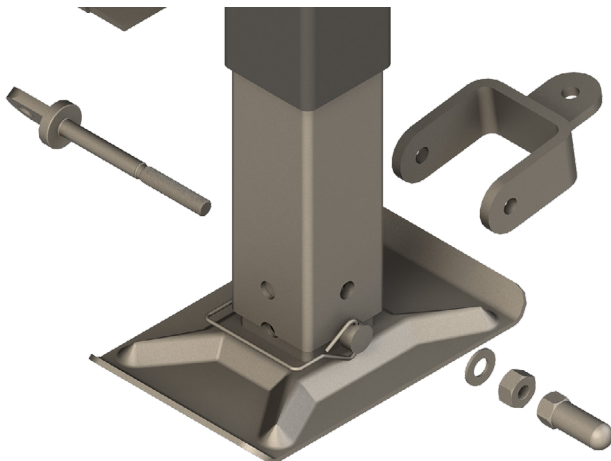

Fig.3
IV. Tighten heavy hex nut enough to eliminate side play (**Fig.3**).
D. Thread a $\frac{3}{8}$ " - 16 nut ("Silver Bullet") lifting handle onto the outside of the swing bolt. Tighten nut lifting handle against the $\frac{3}{8}$ " - 16 heavy hex nut (**Fig.3**).